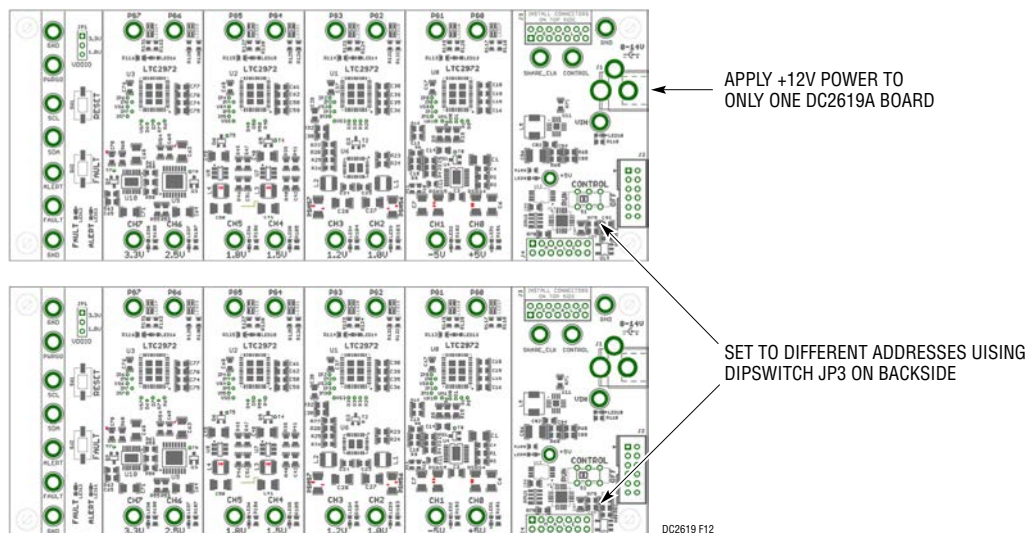

Figure 12. Array of Multiple Board Sets
3. Plug in the +12V  $V_{IN}$  power into one of the boards as shown in Figure 12 below. Only one +12V power source is allowed.